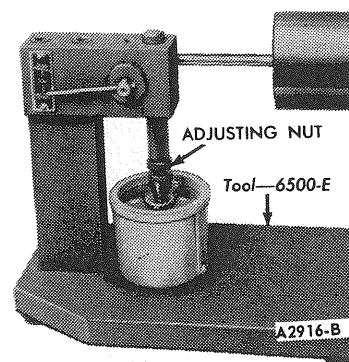

FIG. 9 Adjusting Ram Length
4. Adjust the length of the ram so that the pointer is 1/16 inch below the starting mark when the ram contacts the valve lifter plunger (Figure 9) to facilitate timing as the pointer passes the start timing mark.